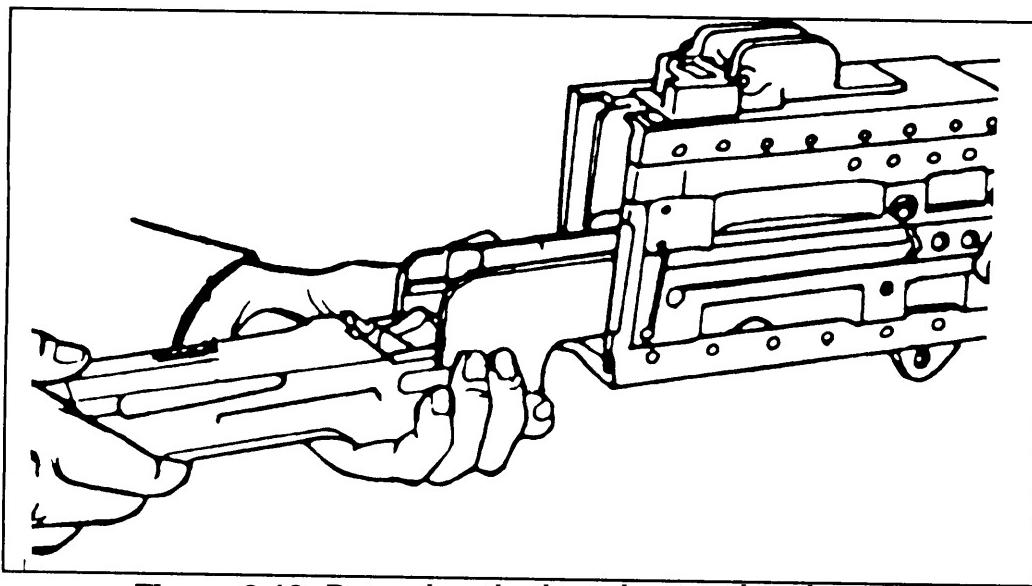

Figure 2-18. Returning the barrel extension, barrel buffer, and bolt groups together.
c. Bolt. Place the bolt in the receiver, with the top of the cocking lever forward and the extractor down. The barrel extension, barrel buffer, and bolt groups may be assembled and returned to the receiver together (Figure 2-18).